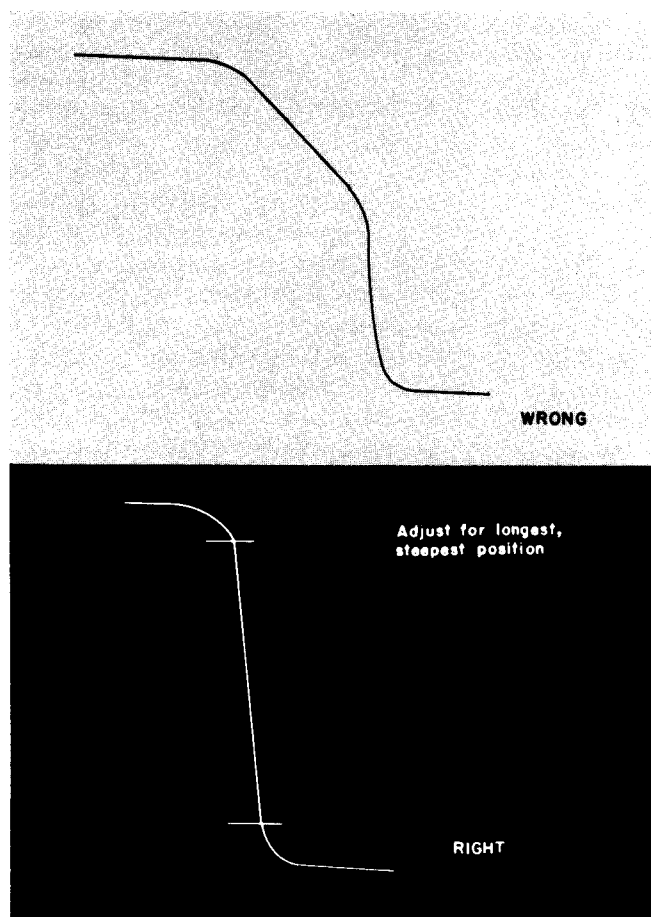

Figure 52 ALC Response
3. The test jig in Figure 51 should be plugged into the Jones plug on the chassis. While viewing the scope, the front panel ALC control is turned till a slanted line pattern appears. This pattern represents input versus output of the ALC amplifier and the object is to adjust the bias of the 6AU6 tubes to give a straight steep slope. It is not important if the line bends on top or bottom as only the straight portion is used in the actual operation. The test jig furnishes more drive voltage than the ALC crystals. The pattern should be similar to Figure 52.